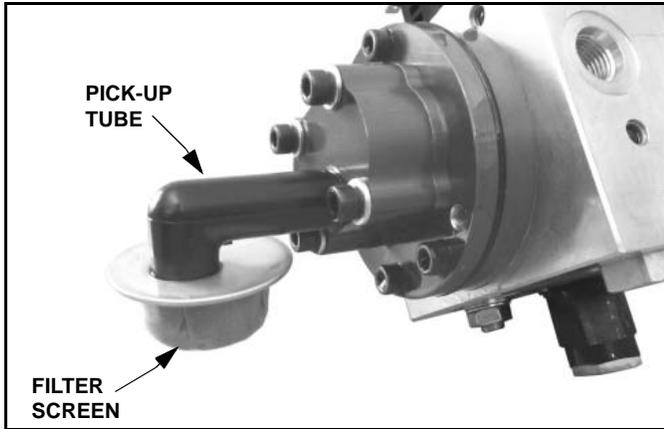

Figure 2-2
8. Pull the filter screen from the oil pick up tube and clean with a suitable solvent. Blow-dry the filter from the inside with low-pressure air. (See Figure 2-2)